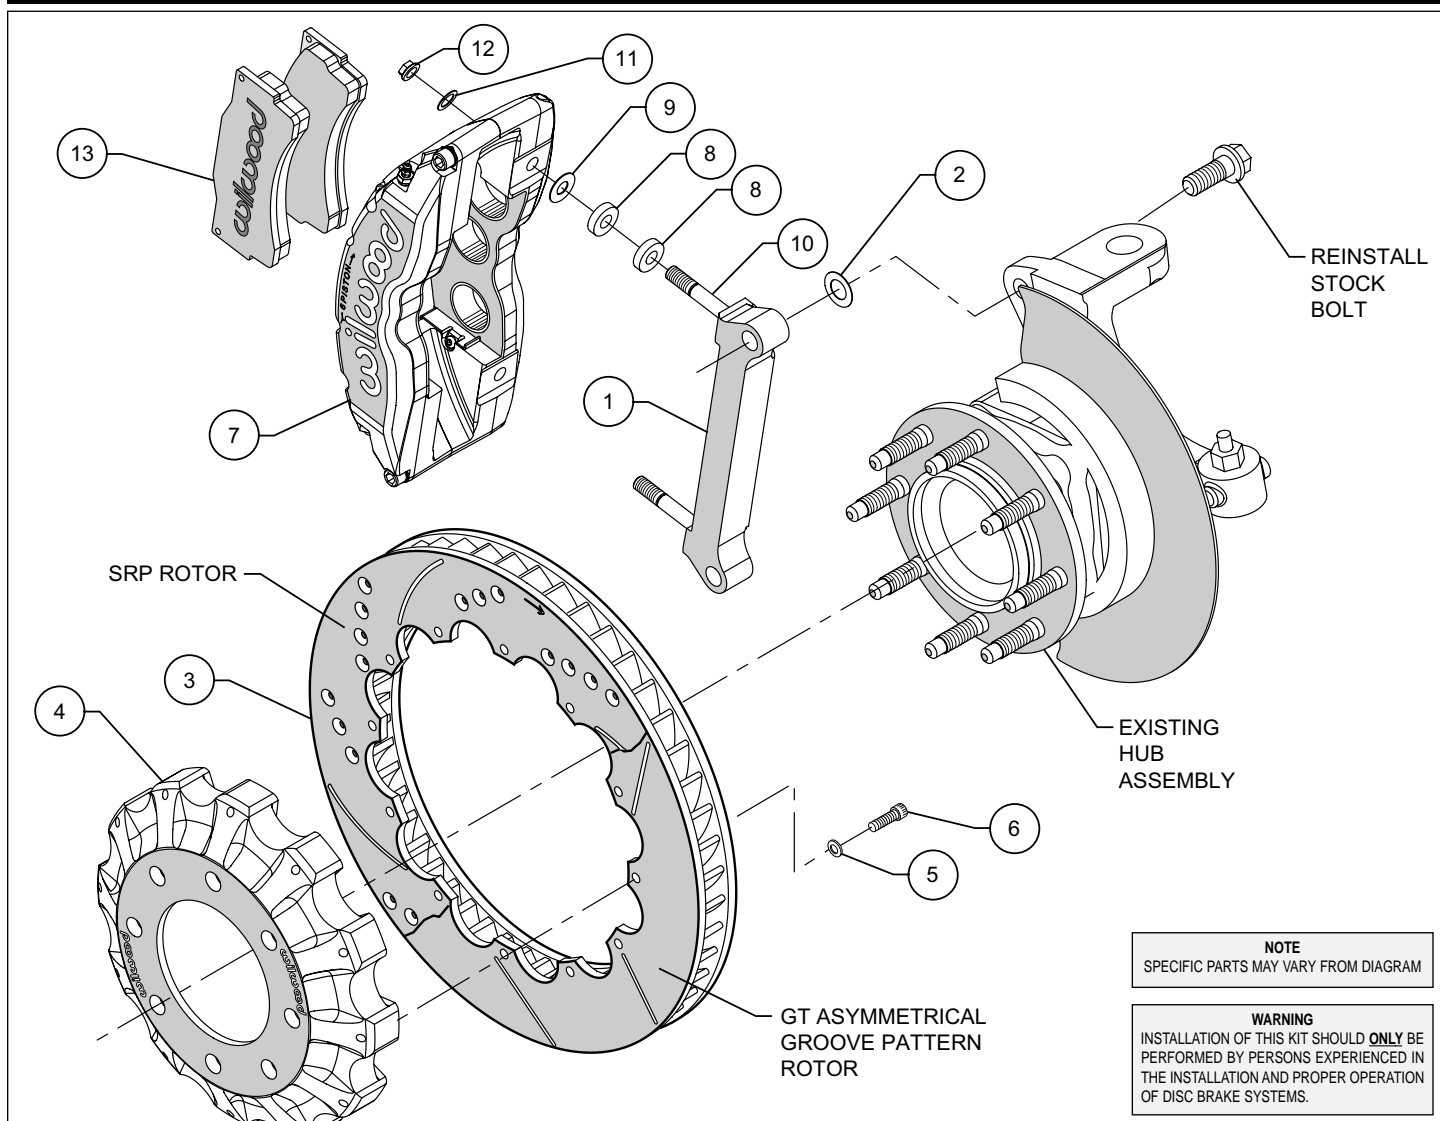

Figure 1. Typical Installation Configuration
- The caliper mounting bracket assembly (1) should be installed first with clean, dry threads on the mounting bolts. Install the bracket from the outboard side of the spindle by sliding the stock bolt through from the backside into the bracket (1). Place shim washer (2) between the bracket (1) and the spindle (see Figure 1). The bracket must tighten squarely against the side of the spindle body. Inspect for interference from casting irregularities, machining ridges, burrs, etc. Use one thin shim (2) between the bracket (1) and spindle during initial trial fitting.